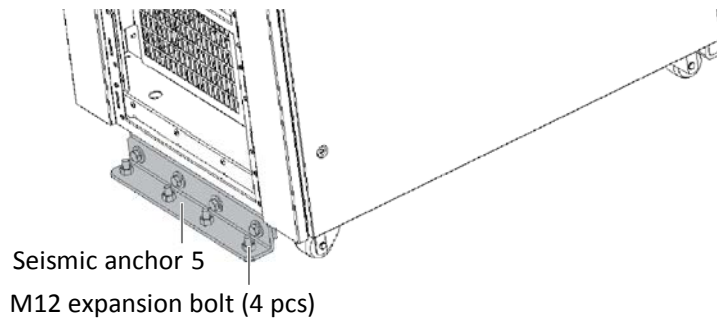

Figure 8-20 Fixing seismic anchor 5 on the ground
6. Use four M12 expansion bolts to fix seismic anchor 5 on the ground, as shown in Figure 8-20.